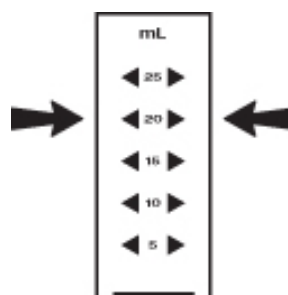

Figure 2:
2. Fill the sample cup up to the 20 mL mark with deionized water. *See Figure 2.*
2. Fill the sample cup up to the 20 mL mark with the sample. *See Figure 2.*